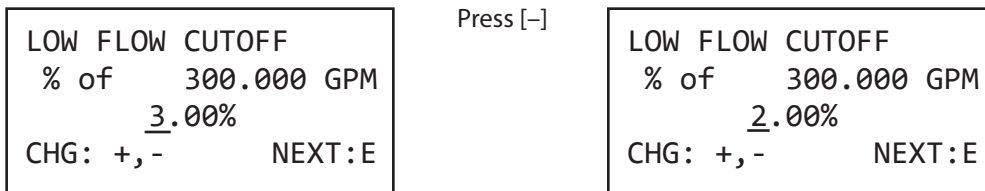

Figure 30: Decrease a value
**Example 2:** For procedures that require you to enter a numeric value, use the [-] button to decrement the selected numeral. *Figure 30* shows the *Low Flow Cutoff* parameter display. Notice the cursor under the 3. In this case, press the [-] once to decrement the numeral to the value of 2.00 %.